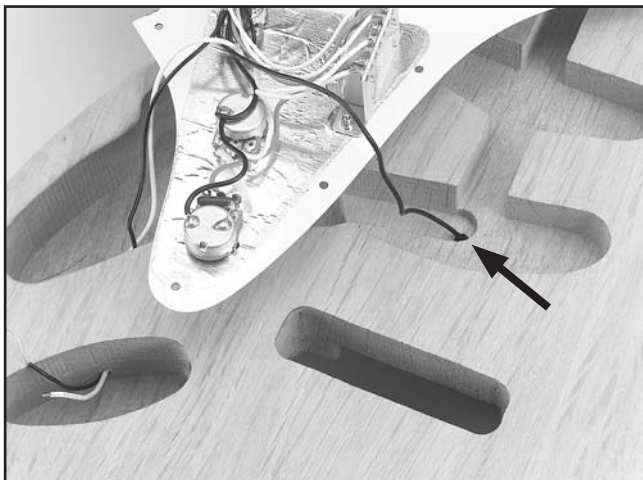

Figure 17. Pick guard wire.
2. Push the remaining black wire through the hole shown in **Figure 17**.